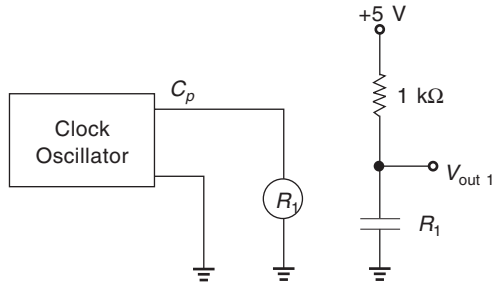

Fig. 7.19
7.17 Draw the timing diagram for the circuit shown in Fig. 7.19 given the C_p waveform.